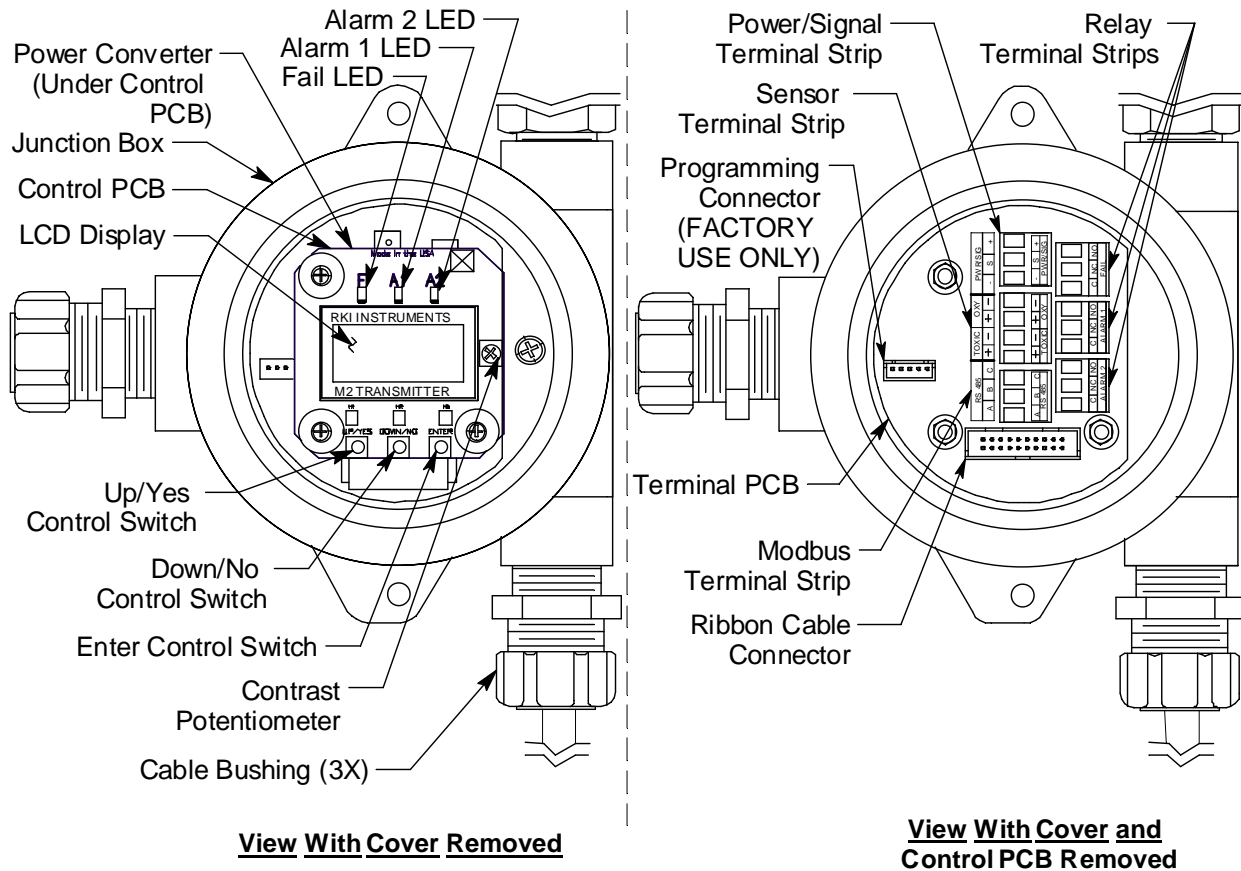

Figure 4: M2 Rig Monitor Internal Components
The Rig Monitor includes three push button switches that allow you to enter the Rig Monitor’s operating modes, navigate through the modes, update settings, and save changes to the settings. The push button switches are located along the bottom edge of the control PCB (see Figure 4). The UP/YES button is on the left, the DOWN/NO button is in the middle, and the ENTER button is on the right.
The Rig Monitor includes five status LEDs that are located above the display (see Figure 4).
6. Locate the relay terminal strips. See Figure 4 to assist you in locating the relay terminal strips.